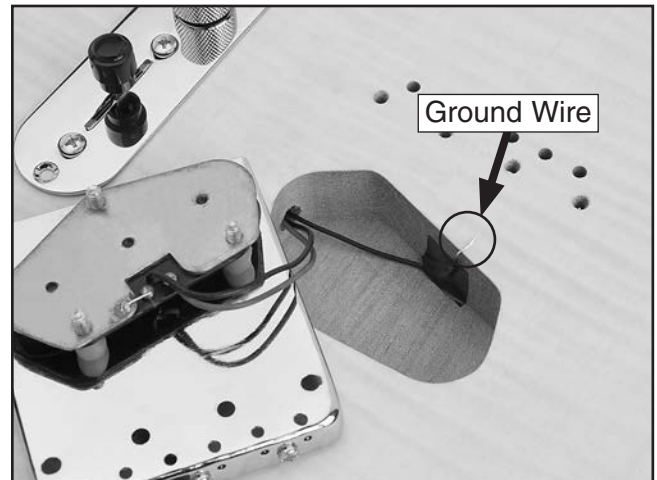

Figure 24. Ground wire above bridge cavity.
1. Tape the ground wire so the exposed portion curls over the bridge cavity as shown in **Figure 24**.